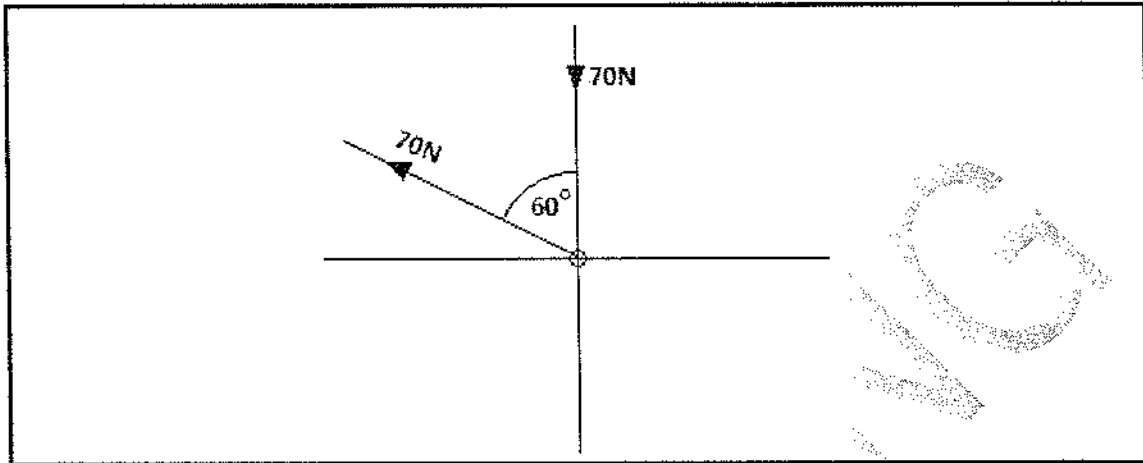

FIGURE 2
- 2.4 Determine graphically the magnitude and direction of the resultant of the system of forces as shown in FIGURE 2.